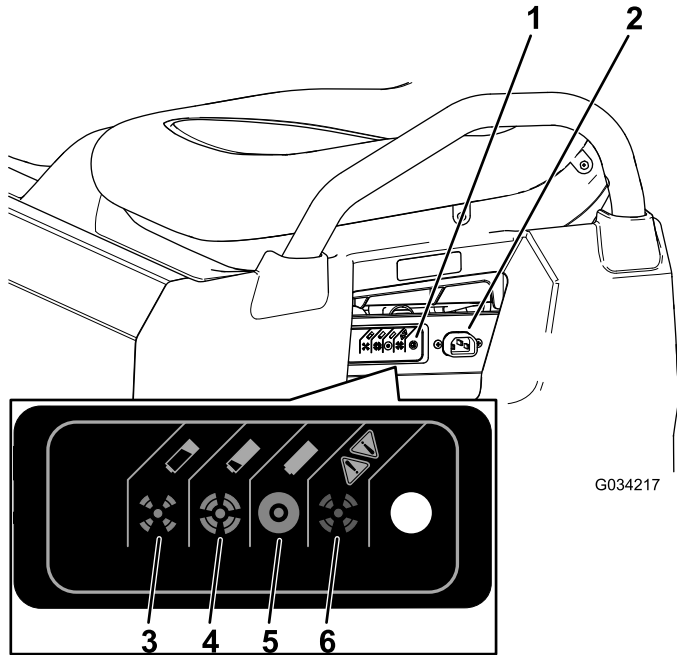

Figure 38
- Connect a **16 gauge (or larger diameter), 2.5 m (8.2 ft) or shorter charger cord** to the charging receptacle on the machine (Figure 38).
Refer to the following table and Figure 38 for information on the meanings of the varying colors of the charger-status light.